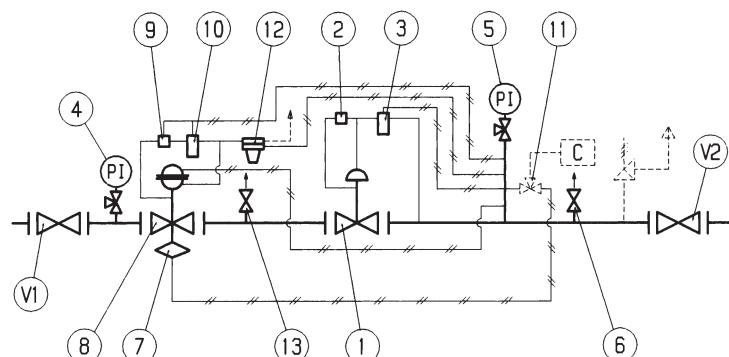

Fig. 21
5.6 MESSA IN SERVIZIO REGOLATORE APERVAL PIÙ MONITOR IN LINEA REVAL 182 CON VALVOLA DI BLOCCO INCORPORATA VB/93 E VALVOLA ACCELERATRICE (FIG. 21)
5.6 COMMISSIONING THE REGULATOR APERVAL WITH REVAL 182 IN-LINE MONITOR IN LINE WITH VB/93 INCORPORATED SLAM-SHUT AND ACCELERATOR (FIG. 21)
5.6 INBETRIEBNAHME DES REGLERS APERVAL MIT IN SERIE GESCHALTETEM MONITORREGLER REVAL182 MIT INTEGRIERTEM SICHERHEITSABSPERRVENTIL (ABB. 21)
5.6 MISE EN SERVICE DU DETENDEUR APERVAL ET MONITOR EN LIGNE REVAL 182, AVEC VANNE DE SECURITE INCORPOREE (FIG. 21)
5.6 PUESTA EN SERVICIO DEL REGULADOR APERVAL CON MONITOR EN LINEA REVAL 182 VÁLVULA DE SEGURIDAD INCORPORADA VB/93 Y VÁLVULA ACELERADORA (FIG. 21)
5.6 ACTIVAÇÃO DO REGULADOR APERVAL COM MONITOR EM LINHA REVAL 182 COM VÁLVULA DE BLOQUEIO INCORPORADA VB/93 E VÁLVULA ACELERADRA (FIG. 21)